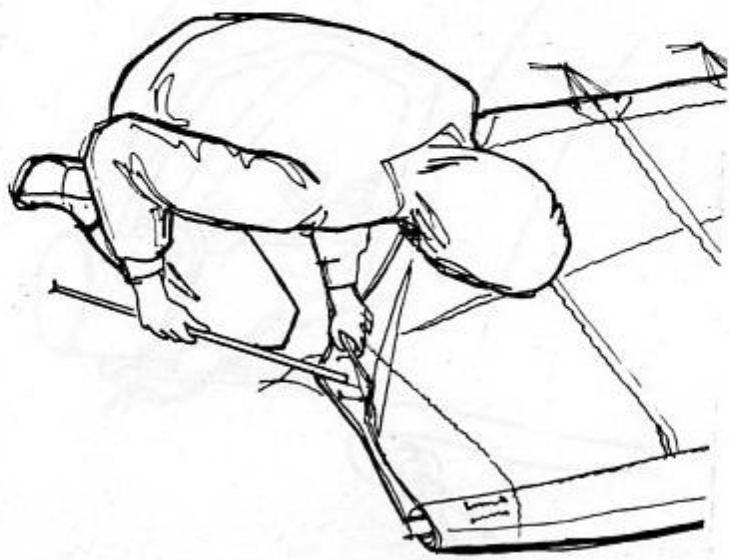

Fig. 3.2.24.
13. Insert the tip battens until they are stopped on the N3 leading edges and fix them using the leech lines (Fig. 3.2.24, 3.2.25).